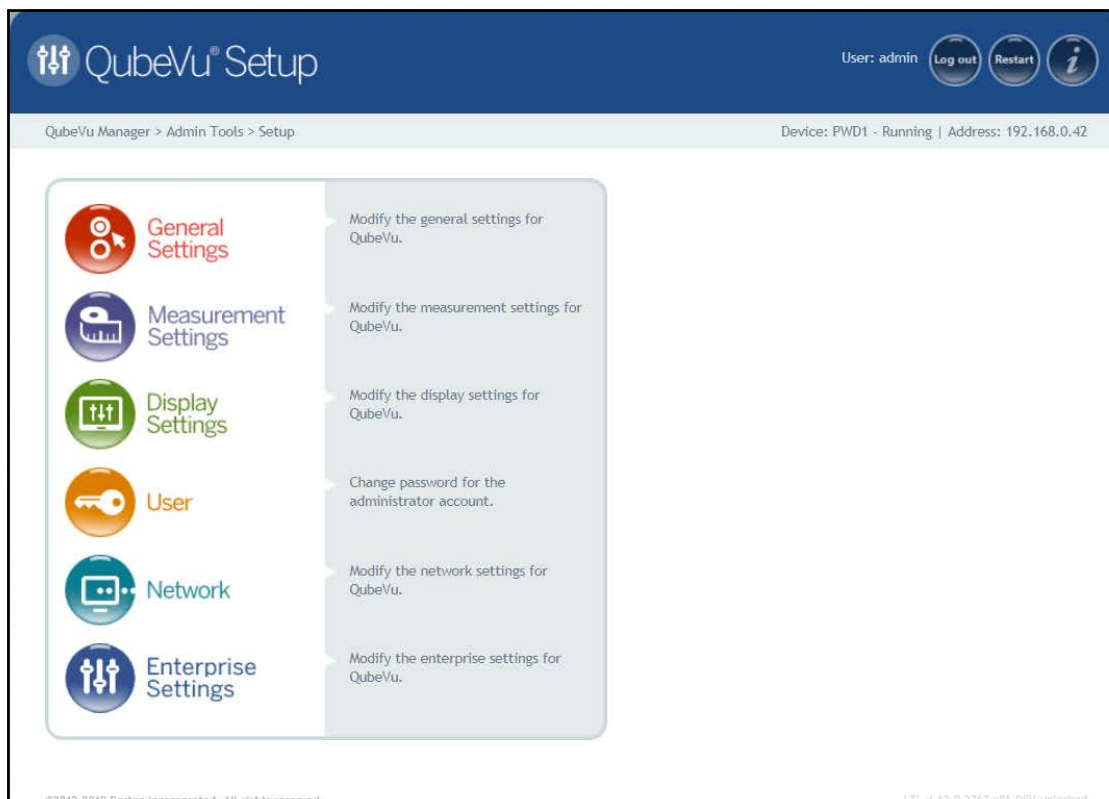

Figure 3-1. Setup Menu
- Press  **General Settings** from the **Setup** menu (Figure 3-1 on page 12) to enter the **General Settings** menu
4. Press  **Measurement Settings** from the **Setup** menu (Figure 3-1 on page 12) to enter the **Measurement Settings** menu.